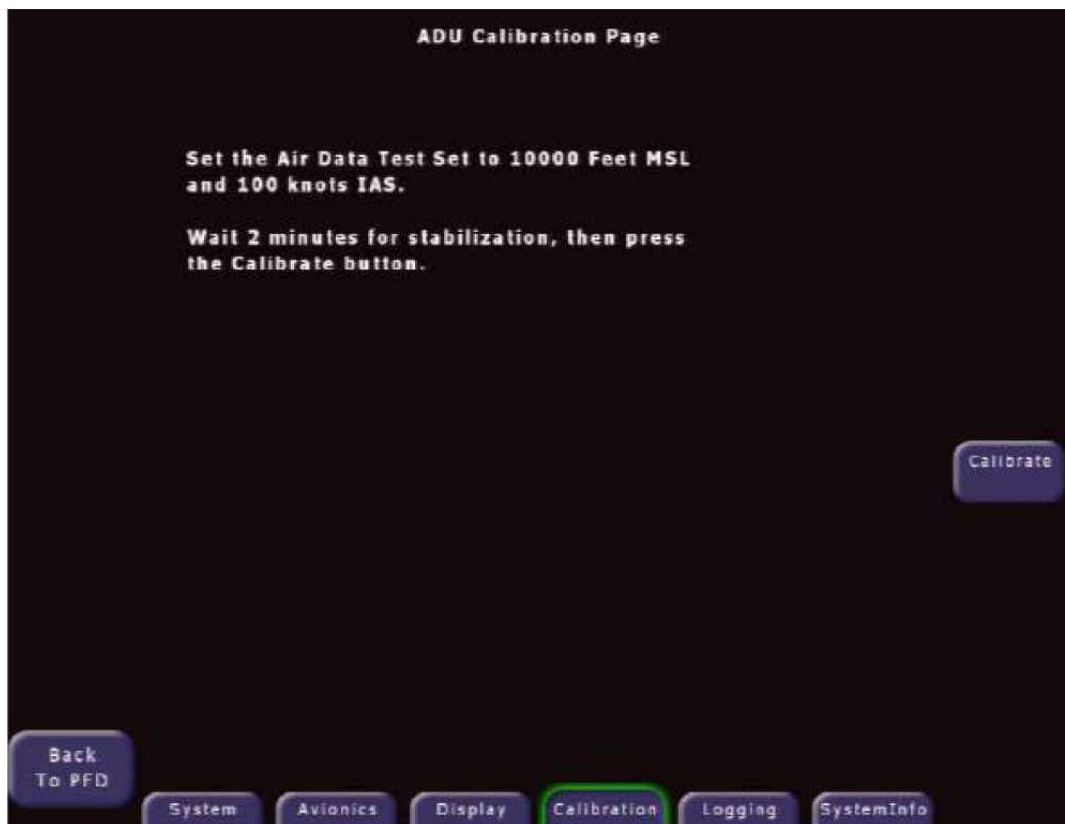

Figure 11: Calibrating the ADU
4. On the PFD, on the *Calibration Page* (Section 3.6, "Calibration Page" on page 29), press **Perform ADU Cal** to open the *ADU Calibration Page* (Figure 11).